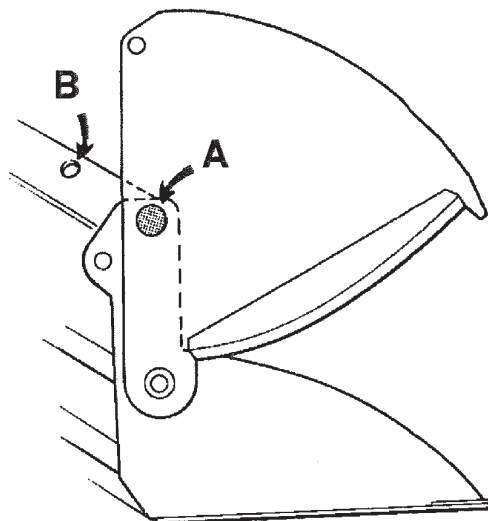

Fig. 3
4. Open the Shear Bucket to the maximum opening, and fit the safety locking pin, Ref. A, Fig. 3. This will prevent the cutting frame from dropping when the Bucket is being worked upon.
Remove the safety locking pin and replace back into stowage hole, and reclip. Fig. 3 Ref B.